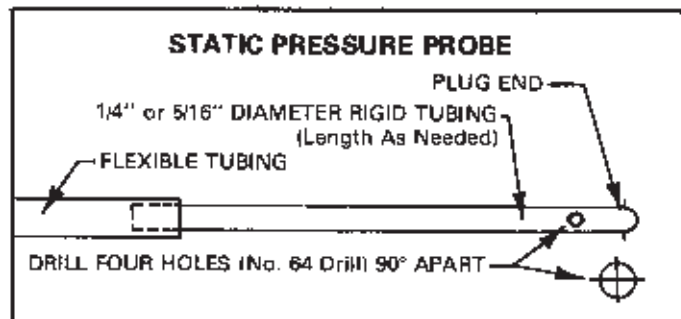

FIGURE 39
- 1 - Assemble a static pressure probe as shown in Figure 39.